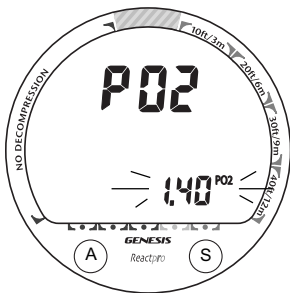

Fig. 18 - Set PO2 Alarm
- While viewing the Set 1 screen, press/release the A (left) button 5 times (< 2 sec each time), the Set PO2 Alarm screen appears with the Set Point flashing (Fig. 18).